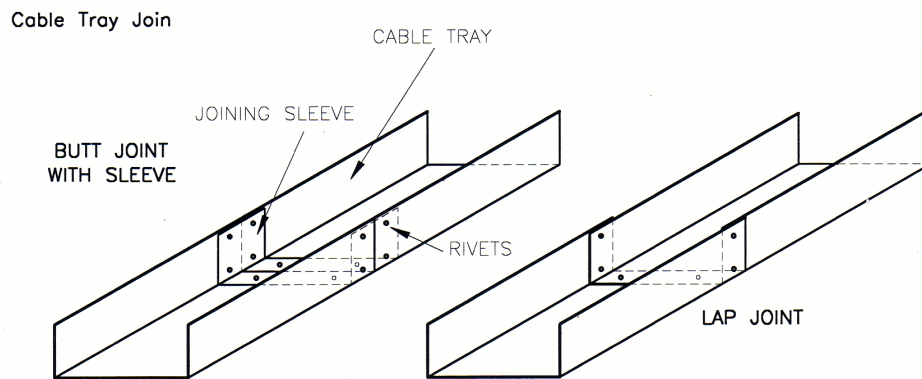

Figure 3 - Typical butt and lap joints in cable tray.
17. A butt joint is where the cable tray is to be joined in a straight line. Some types of cable tray have a small difference in width between one end and the other so that they can be joined with a lap butt joint. If this is not the case a butt joint and sleeve can be used. The length of the overlap or the joining sleeve are not critical, but about a 50 mm overlap is customary for a lap joint and about a 100 mm sleeve is customary for a butt joint. The general arrangement of both joints is shown in Figure 3.